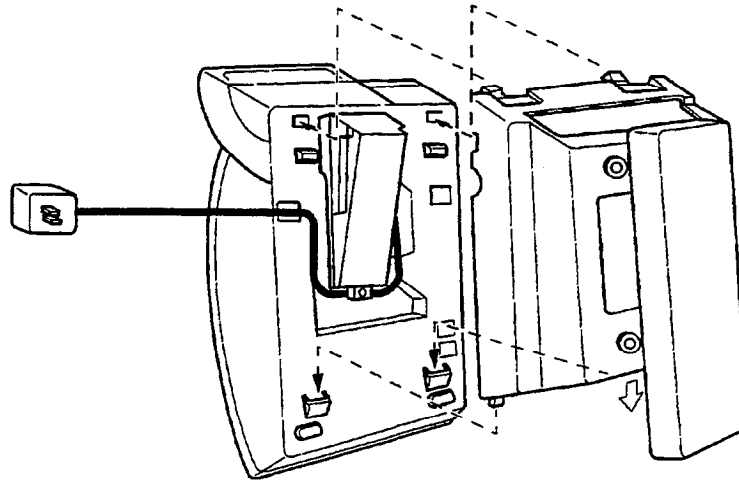

Figure 4-31 Attaching the Digital Multiline Terminal to the WMU-U Unit
7. With the WMU-U Unit attached to the wall, hook the two bottom tabs on the WMU-U Mount Unit in the tab slots on the terminal. Then push the two top tabs on the WMU-U Unit in the tab slots on the terminal. If the adapter has a power supply, lead the AC adapter cord out through the opening at the bottom of the terminal. Refer to Figure 4-31 Attaching the Digital Multiline Terminal to the WMU-U Unit.